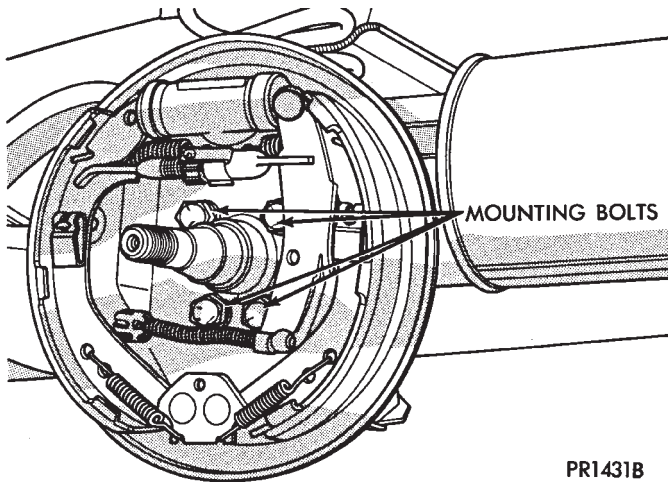

Fig. 3 Loosen Mounting Bolts
face and axle casting. Each shim equals wheel change by $.3^\circ$, as shown in figures 3 through 6. These shims are to be used on two wheel drive vehicles only.
- (9) Loosen four (4) brake assembly and spindle mounting bolts enough to allow clearance for shim installation (Fig. 3). **Do not remove mounting bolts.**